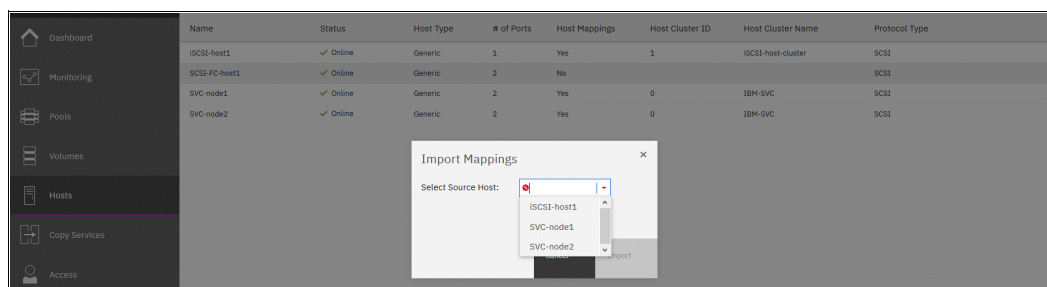

Figure 7-48 Import volume mappings source host selection
2. Select the source host from which you want to import the volume mappings from the Import Mappings window (see Figure 7-48) and click **Import**.